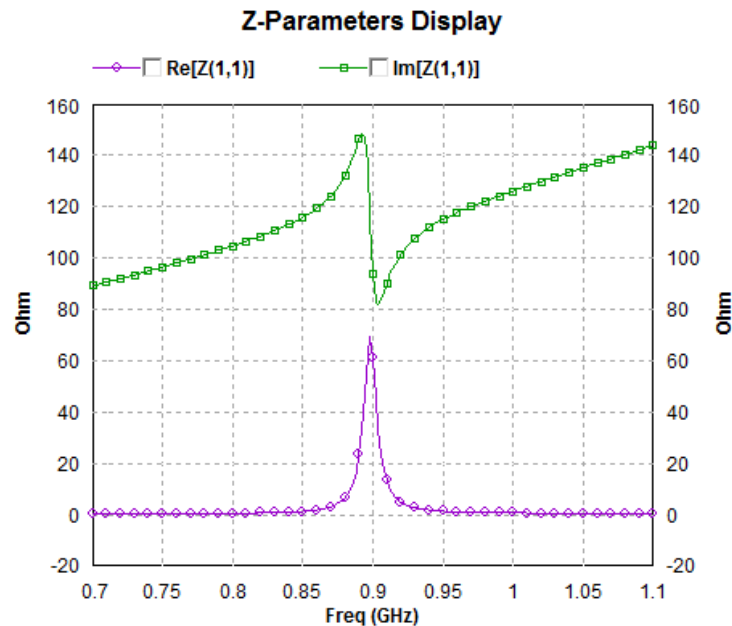
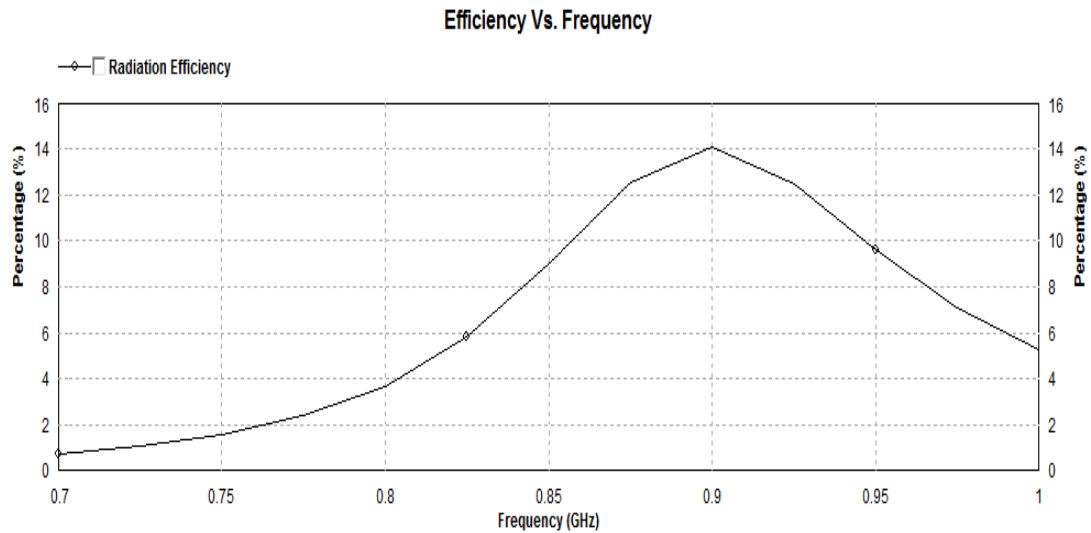

Figure 3.0, “Theoretical Antenna Impedance – Real and Imaginary.”
Figure 4.0, “Theoretical Antenna Efficiency.”
antenna impedance, both real and imaginary is shown in Figure 3.0. The radiation efficiency, shown in Figure 4.0 is 11% to 14% from 867 to 930 MHz. The theoretical antenna impedance, directivity, and radiation efficiency data was collected for estimating the inlay sensitivity and read range. The results are displayed in Table 1.0. The estimated RF sensitivity is -18.6 to -17.7 dBm at 867 and 915 MHz respectively. The resulting read range using an FCC (NA) approved reader system (1 W, 6 dBi gain, CP reader antenna, 36 dBm EIRP) is 29.3' (8.9 m). The EU read range using a similar reader system with 0.5W of conducted power is 24.3' (7.4 m).